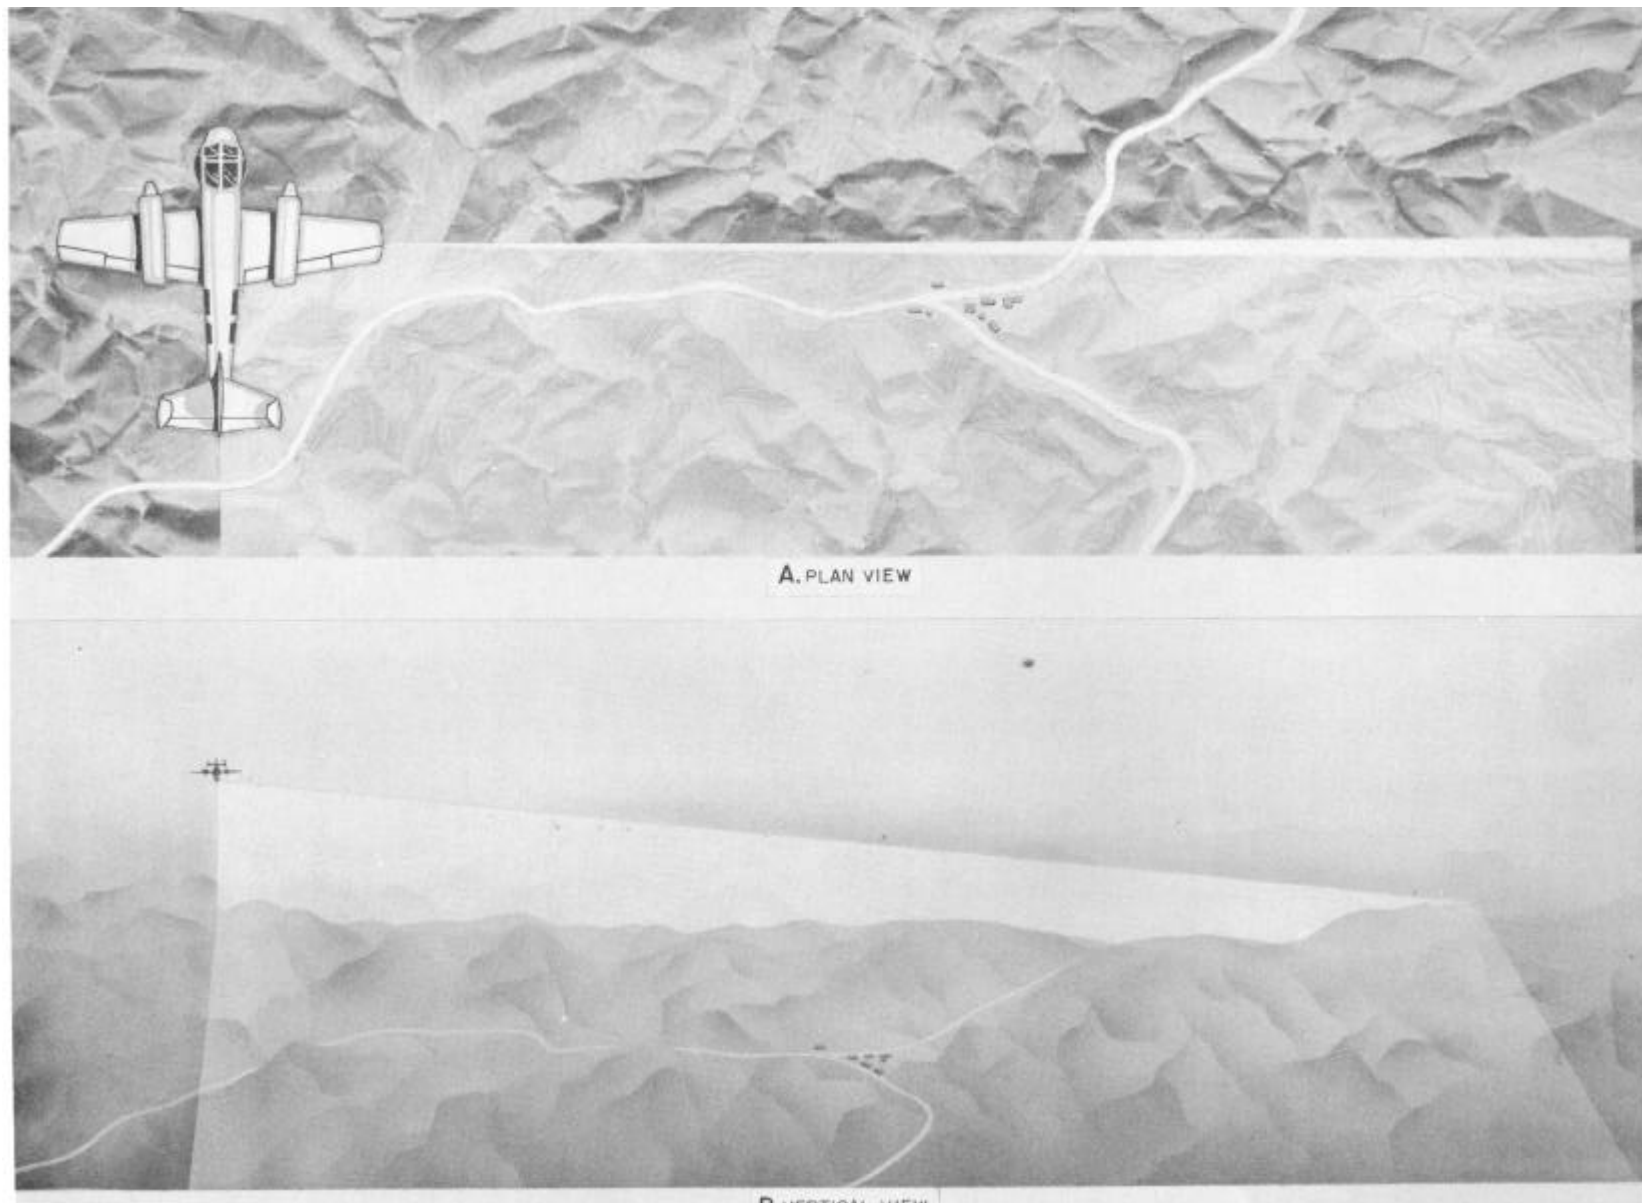

Figure 1-1. Radar Surveillance Set AN/AP94(*), typical use, scanning terrain to right of aircraft.
c. Map Analysis. A study of the ft film reveals permanent objects in the mapped area, such as roads, structures, and hills. A study of the mt film reveals the movement of objects such as vehicles and railroad trains. A comparison of two mt films with the corresponding ft films can establish the coordinate positions, the directions, and the approximate rates of these movements. Additional information that can be obtained from study of successive ft maps taken of the same area is a change of terrain characteristics, such as the flooding or clearing of fields, the leveling of a landing strip, or the erection of buildings or other structures. Figure 1-1 shows a typical aircraft scan of terrain by use of Radar Surveillance Set AN/APS-94(*). A plan view of the aircraft scan is shown in A, figure 1-1, and a vertical view of the aircraft scan is shown in B, figure 1-1.